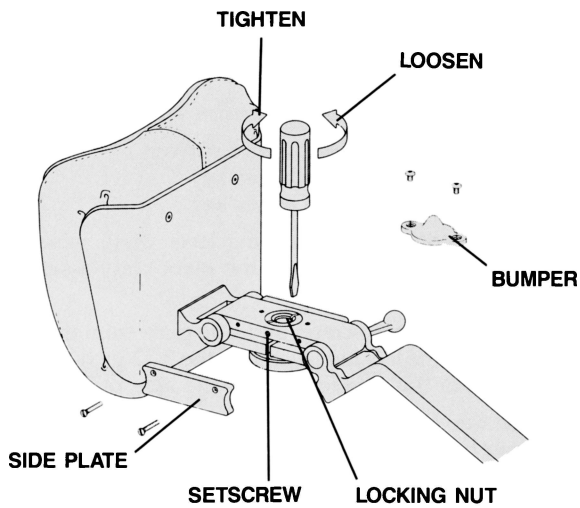

Figure 4. Adjusting the Pivot Tension
1. Release the headrest locking lever then, raise the headrest cover away from the pivot body assembly (see figure 4).